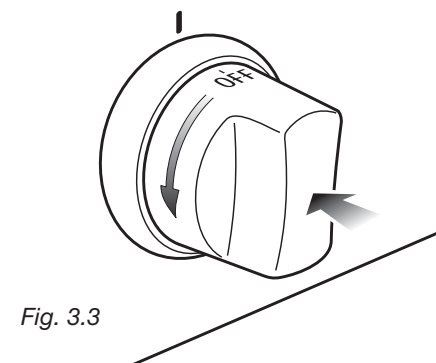

Fig. 3.3
2) Lightly press and turn the thermostat knob anti-clockwise (fig. 3.3) to max position **8** ★.